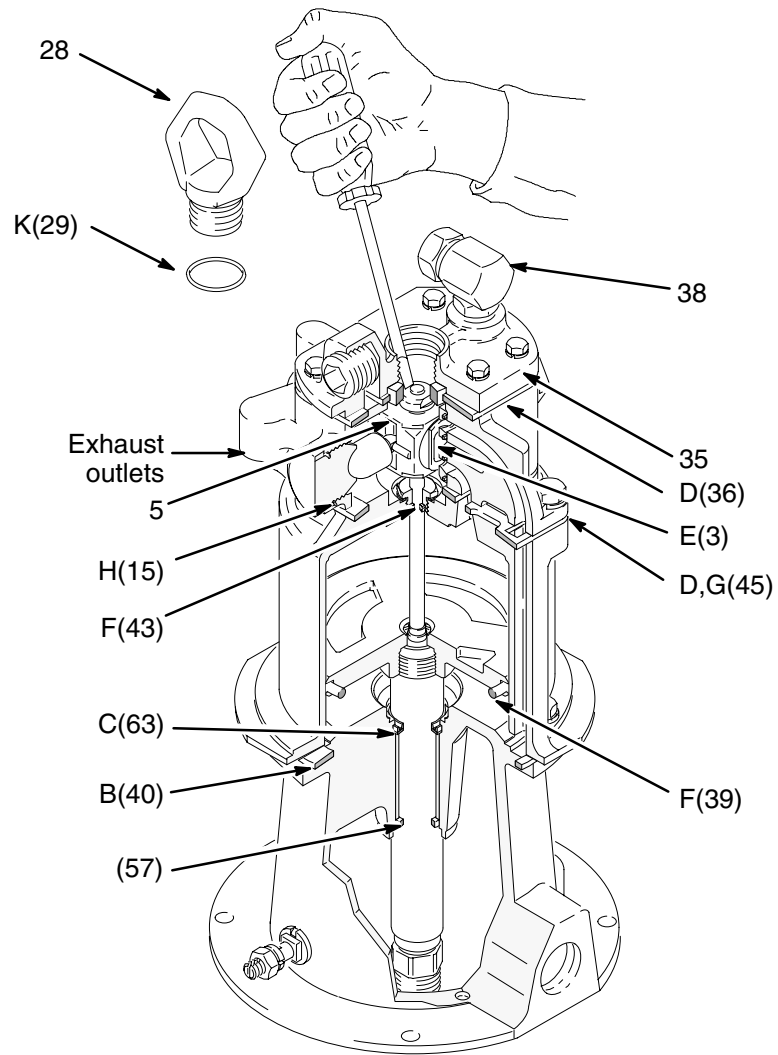

Fig. 12
To restart a stalled motor, shut off the air supply. Screw the lift ring (28) out of the manifold housing (35) and use a screwdriver to push the valve housing (5) down. See Fig. 12.
Shut off the air supply and disconnect the hose. Screw the inlet union (38) out of the air manifold cap (35). Remove the shield (34). Reinstall the shield screws (26) and lockwashers (25) and then screw the inlet union back into the manifold cap. See Fig. 12. Connect the air hose and turn on the air. Stall the pump on both the up and down stroke as indicated in the **Check Chart** and adjust the air regulator to just 10–15 psi (.07–0.1 MPa, 0.7–1 bar). Then use the checking methods listed in the **Check Chart** to find where air is leaking.
Check Chart (See Fig. 12)